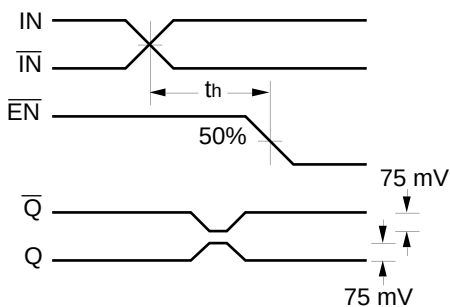

Figure 2. Hold Time
6. The hold time is the minimum time that $\overline{EN}$ must remain asserted after a negative going IN or a positive going $\overline{IN}$ to prevent an output response greater than $\pm 75\text{mV}$ to that IN/ $\overline{IN}$ transition (see Figure 2).